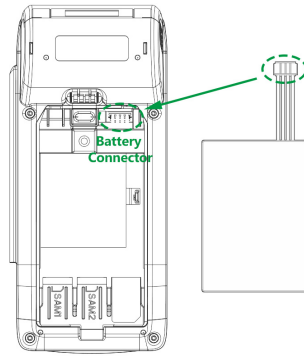

Figure 9
STEP 2: After removing the bottom cover, pull up the battery connector as below Figure 9 to change a new battery.